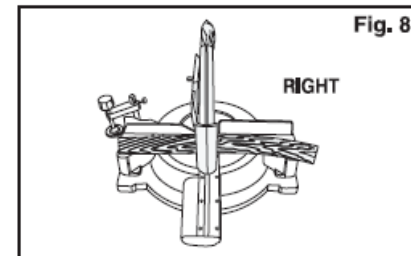

Fig. 8
- Place the workpiece flat on the mitre table with one edge securely against the fence. If the board is warped, place the convex side against the fence and clamp. If the concave edge of a board is placed against the fence, the board could collapse on the blade at the end of the cut, jamming the blade. (Fig. 8, 9)
- Place the workpiece flat on the mitre table with one edge securely against the fence. If the board is warped, place the convex side against the fence. If the concave edge of the board is placed against the fence, the board could collapse on the blade at the end of the cut, jamming the blade. (Fig. 8, 9)
- Place the workpiece flat on the mitre table with one edge securely against the fence. If the material is warped then place the convex edge of the work piece against the fence. If the concave edge of the board is placed against the fence, the board could collapse on the blade at the end of the cut, jamming the blade. (Fig. 8, 9)